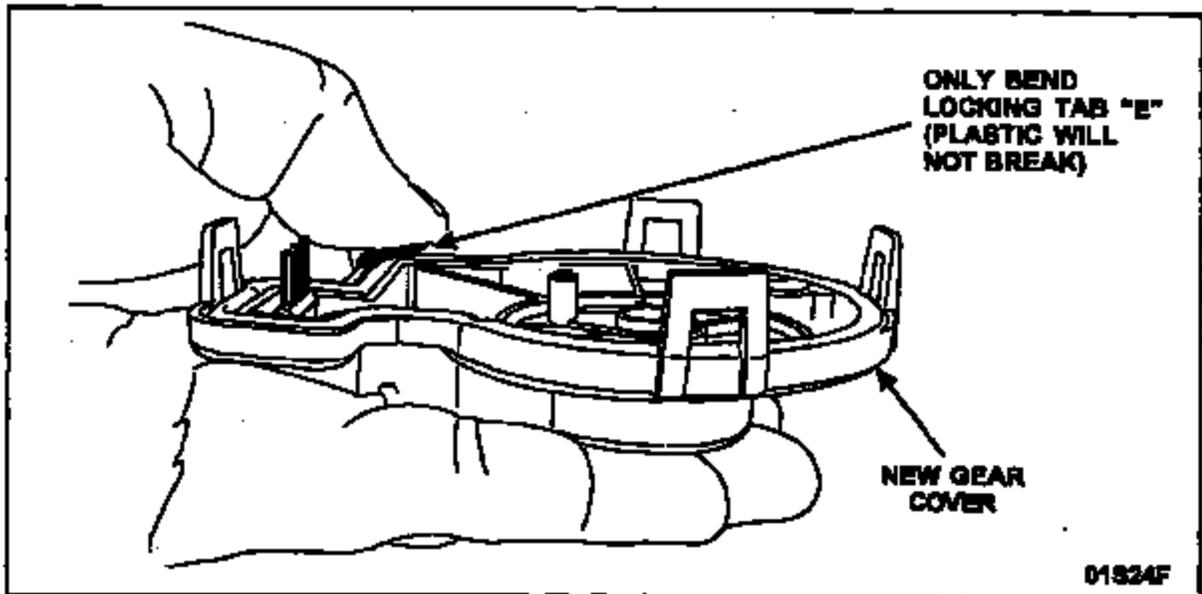
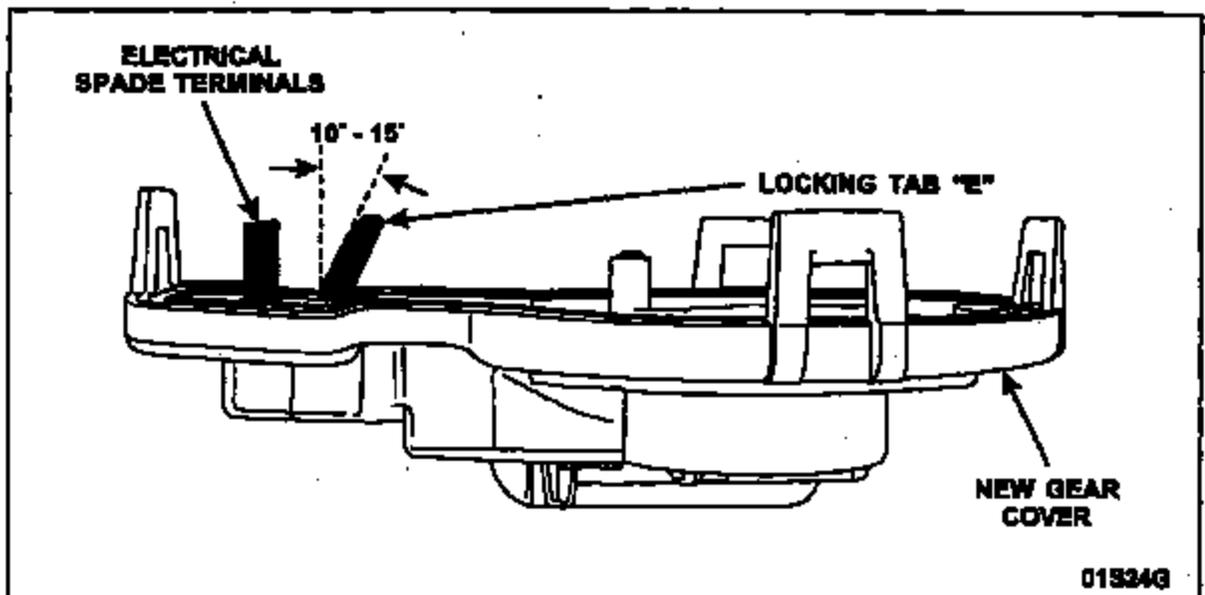

FIGURE 6
FIGURE 7
1. **IMPORTANT:** Using your thumb, bend locking tab "E" approximately 90-90 degrees inward (see Figure 6) then bend it back approximately to the position illustrated in Figure 7. This will improve the engagement of the locking tab with the motor gear housing.